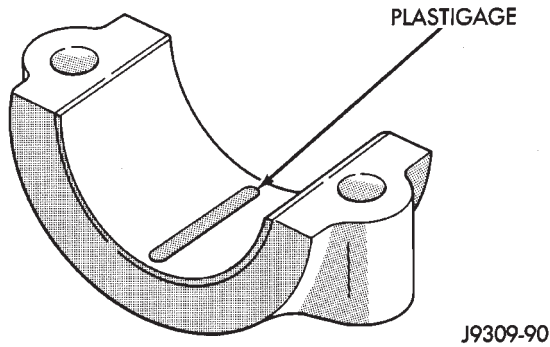
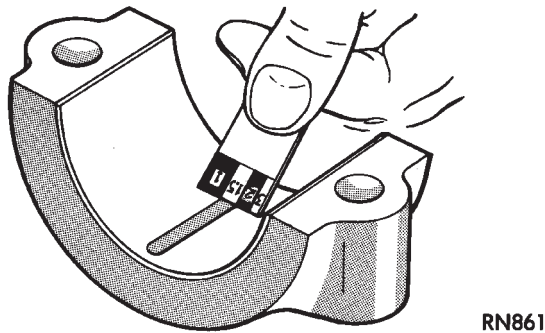

Fig. 1 Placement of Plastigage in Bearing Shell
Fig. 2 Clearance Measurement
(1) Place a piece of Plastigage across the entire width of the bearing cap shell (Fig. 1). Position the Plastigage approximately 6.35 mm (1/4 in.) off center and away from the oil holes. In addition, suspect areas can be checked by placing the Plastigage in that area. Tighten the bearing cap bolts of the bearing being checked to 115 N·m (85 ft. lbs.) torque. **DO NOT rotate the crankshaft or the Plastigage may be smeared, giving inaccurate results.**
(2) Remove the bearing cap and compare the width of the flattened Plastigage with the scale provided on the package (Fig. 2). Plastigage generally comes in two scales (one scale is in inches and the other is a metric scale). Locate the band closest to the same width. This band shows the amount of clearance. Differences in readings between the ends indicate the amount of taper present. Record all readings taken. Refer to Engine Specifications.
(3) Plastigage is available in a variety of clearance ranges. The 0.025-0.076 mm (0.001-0.003 in.) range
(1) Remove oil film from surface to be checked. Plastigage is soluble in oil.
(2) Place a piece of Plastigage across the entire width of the bearing cap shell (Fig. 1). Position the Plastigage approximately 6.35 mm (1/4 inch) off center and away from the oil holes. In addition, suspect areas can be checked by placing the Plastigage in the suspect area.
(3) The crankshaft must be rotated until the connecting rod to be checked starts moving toward the top of the engine. Only then should the rod cap, with Plastigage in place, be assembled. Tighten the rod cap nut to 61 N·m (45 ft. lbs.) torque. **DO NOT rotate the crankshaft or the Plastigage may be smeared, giving inaccurate results.**
(4) Remove the bearing cap and compare the width of the flattened Plastigage with the scale provided on the package (Fig. 2). Plastigage generally comes in two scales (one scale is in inches and the other is a metric scale). Locate the band closest to the same width. This band shows the amount of clearance. Differences in readings between the ends indicate the